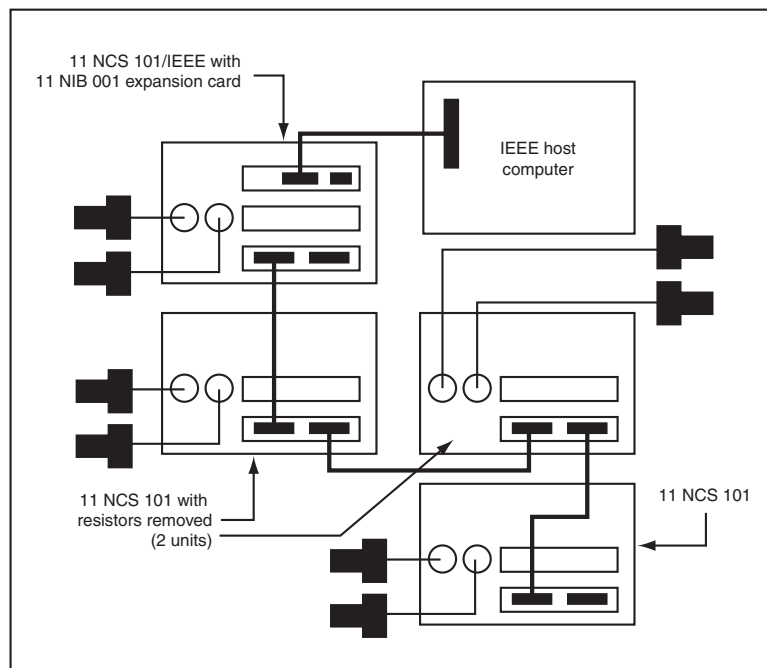

Figure 4.6 Hookup for eight axes of motion
When removing the terminating resistors, designated as Resistor SIP Types A, B, and C in Figure 4.6, it is essential that you keep the resistors together by type, as they will be required if the controller will ever be used alone or at the end of a chain.
1. The PC link card is the master of the system and therefore all chassis connected to the host computer must have the master/slave jumper, JP1, set to slave. See Figure 4.6.